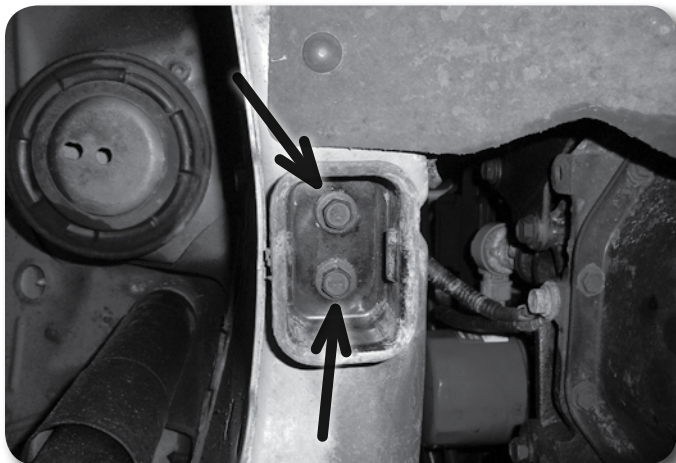

Figure 5
10. Remove the bump stop retainers from the frame rails by removing the two mounting bolts. **Figure 5** Save the retainers and discard the hardware.